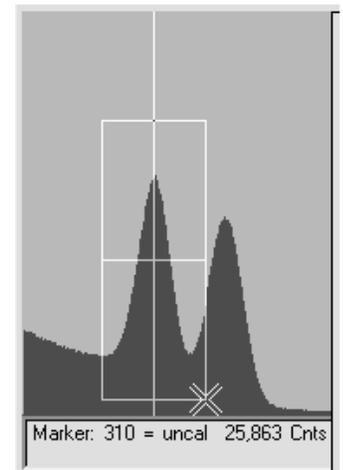

Figure 36. The Rubber Rectangles Crosshairs.
- 2) Drag the mouse diagonally across the area of interest. A reverse-color rectangle bisected by the marker line is drawn. Note that when drawing a rubber rectangle, the marker line combines with a horizontal line inside the rectangle to form crosshairs (Fig. 36). They make it easy to select the center channel in the area of interest — this might be the center of an ROI, a portion of the spectrum to be summed, or a peak for the **Peak Info** function.